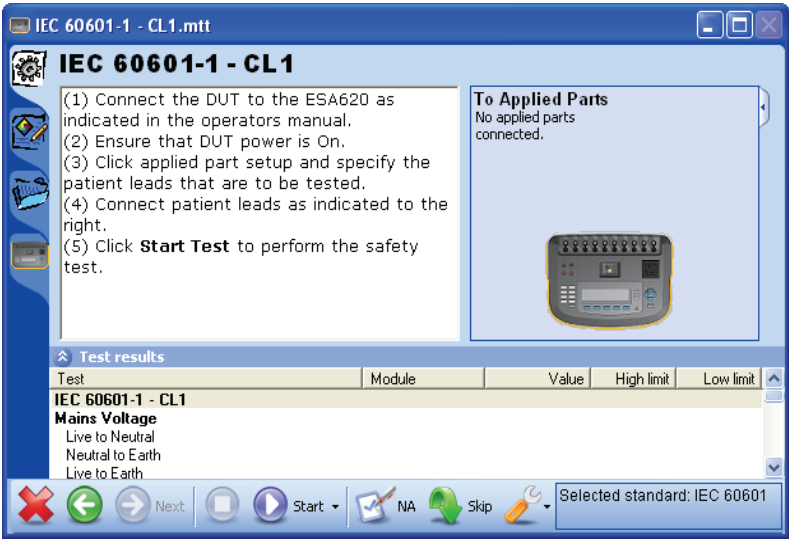

Figure 3-6. IEC 60601-1 Test Guide
3. Click the Next toolbar button to go to the first Test Guide window shown in Figure 3-6.